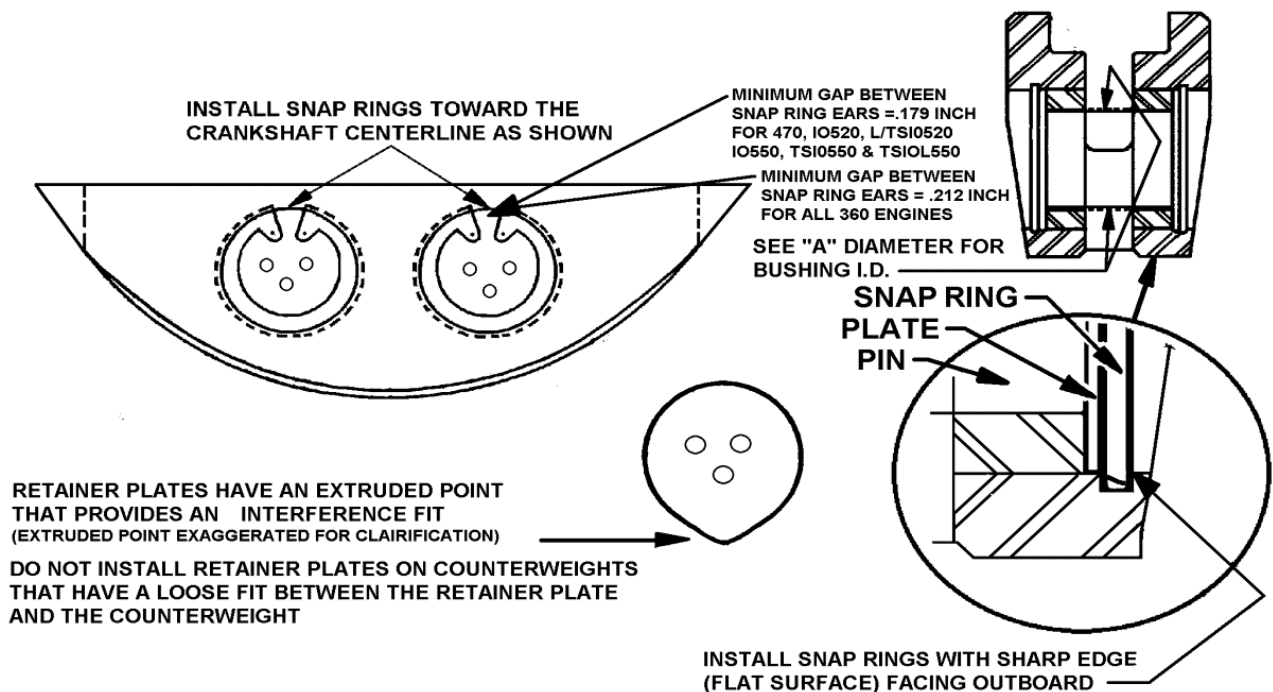

FIGURE 5A. COUNTERWEIGHT BUSHING REPLACEMENT AND ASSEMBLY FOR 360, 470, IO-520, L/TSIO-520, IO-550, TSIO-550, TSIO550 CRANKSHAFTS
Figures 5A and 5B for specifications regarding counterweight bushing removal and replacement. The replacement bushings must have an interference fit of .0015 to .003 inch into the bushing bores.
- a) Because of the close tolerances required, the replaced bushings must be inspected using an air gauge with correct size air plug and setting ring. Refer to Figures 5A, 5B and 6.